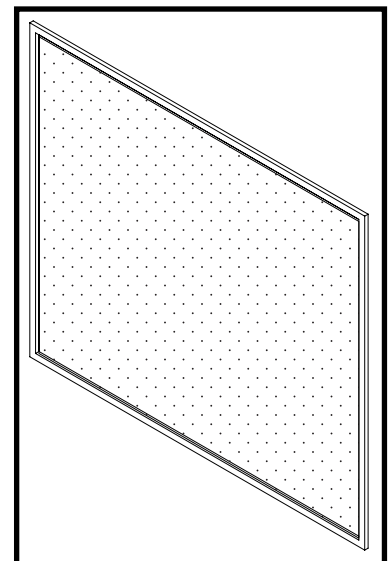

Figure 88: T&C safety barrier screen.
6. Attach the magnetic safety barrier screen (Figure 88) to the outer-most door frame.